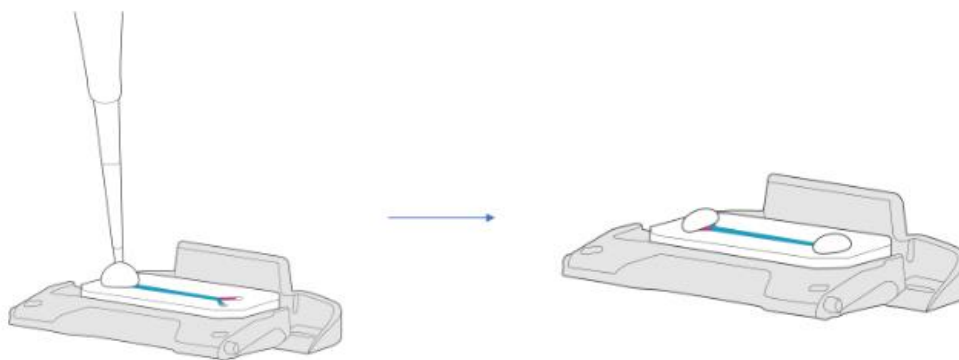

Figure 3 Chip with medium drops covering the inlet and outlet ports
2. Place additional droplets of media to fully cover all inlet and outlet ports to prevent evaporation from the ports (See Figure 3).
2. Place additional droplets of Complete Maintenance Medium to fully cover all inlet and outlet ports to prevent evaporation from the ports (See Figure 3).